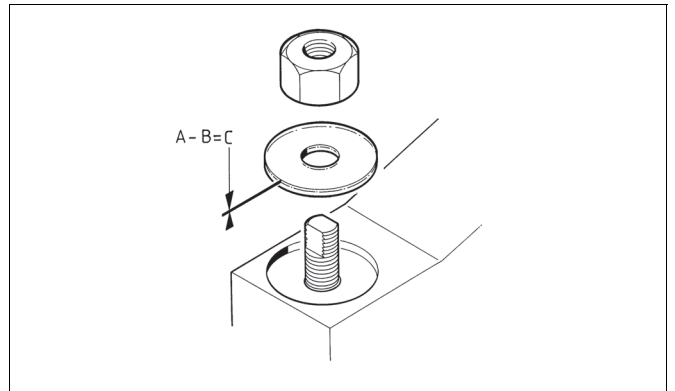

Fig. 17 The thickness of the washer
- The measure "C" is the correct thickness of the washer. If necessary, thin the washer. See Fig. 17. Tighten the screws, keeping them in horizontally balance.